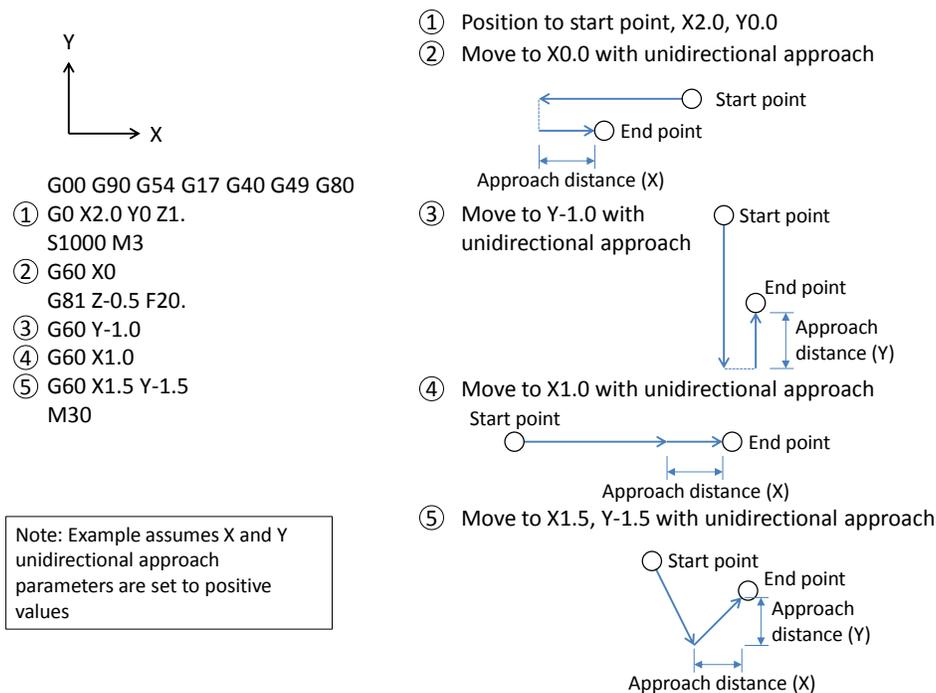

FIGURE 13 UNIDIRECTIONAL APPROACH
**G60 – Unidirectional Approach:** In cases where mechanical backlash causes positioning errors unidirectional approach can be used to increase accuracy. G60 is a non-modal code, when specified in a movement block motion will move to the end point from a parameter defined distance and direction, see figure 13. The distance and direction of the approach movement is specified by setting values in # variables as shown in the following table: